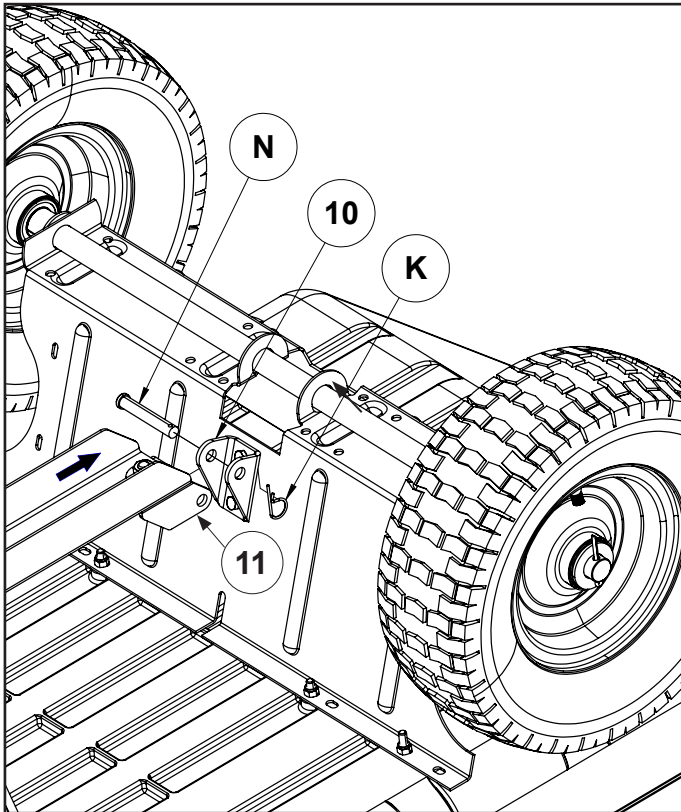

FIGURE 10
- Install two 1/4" bolts (C) into the inner two holes on the poly bed (1) and into the holes on the latch stand plate (3) and latch stand bracket (4) as shown below.
- Secure with two 1/4" nylock nuts (E).
STEP 10: (SEE FIGURE 10)
- Install the pivot clevis (11) over the dump clevis (10).
- Secure with a 2-3/4" clevis pin (N) and a 1.81" hairpin (K).